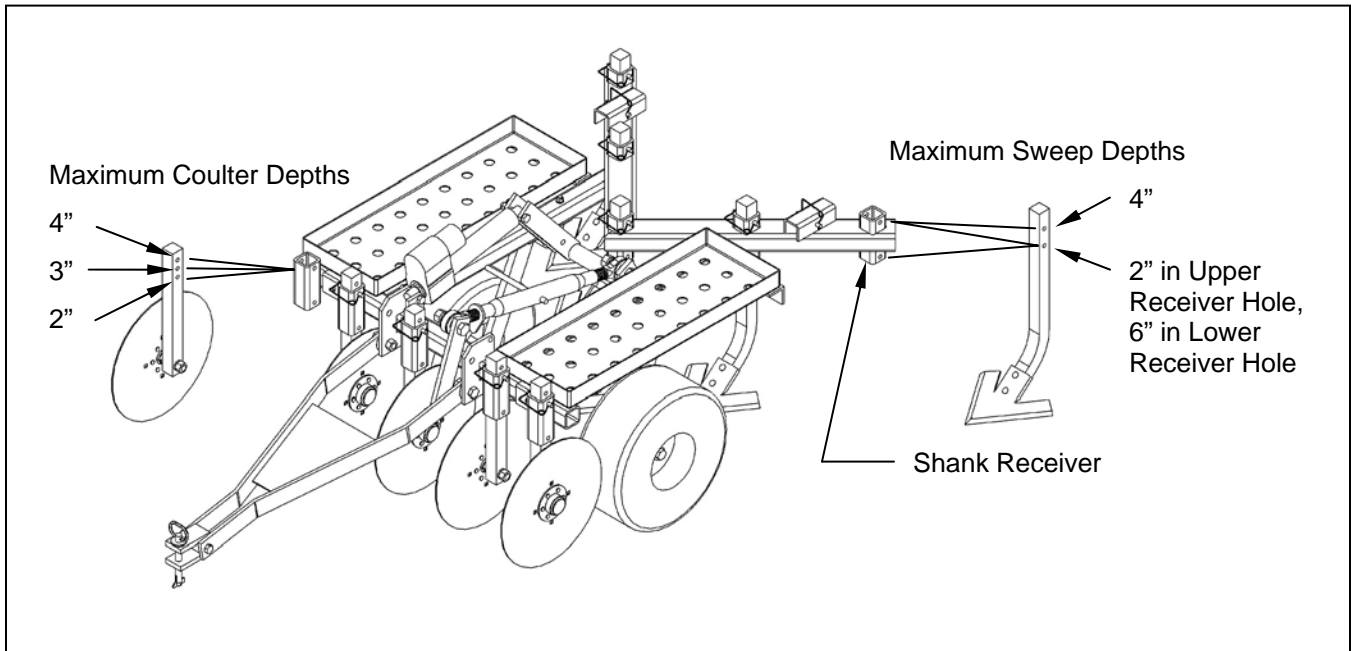

Figure 4. – Shank Adjustment
D. ADJUSTING THE SHANKS AND COULTER SHANKS – Refer to Figure 4.